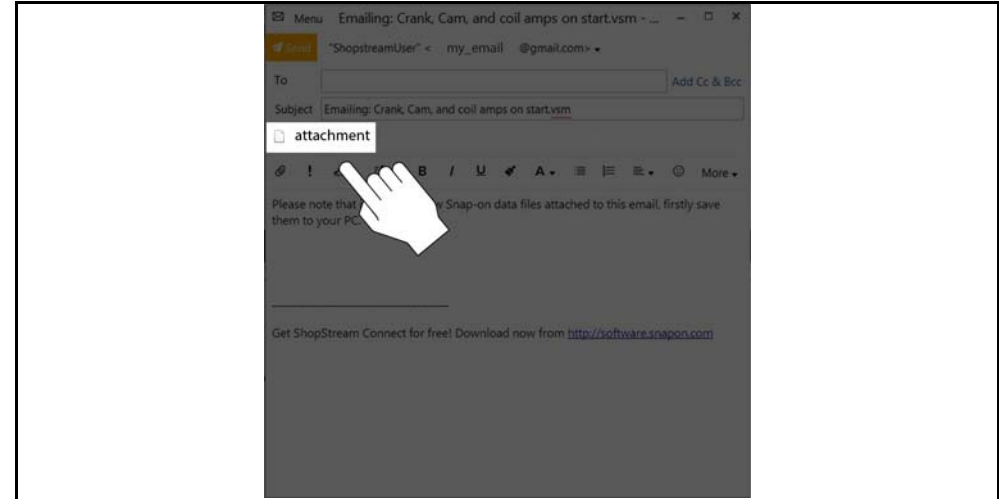

Figure 11-4
3. A new e-mail message window will display onscreen (Figure 11-4).